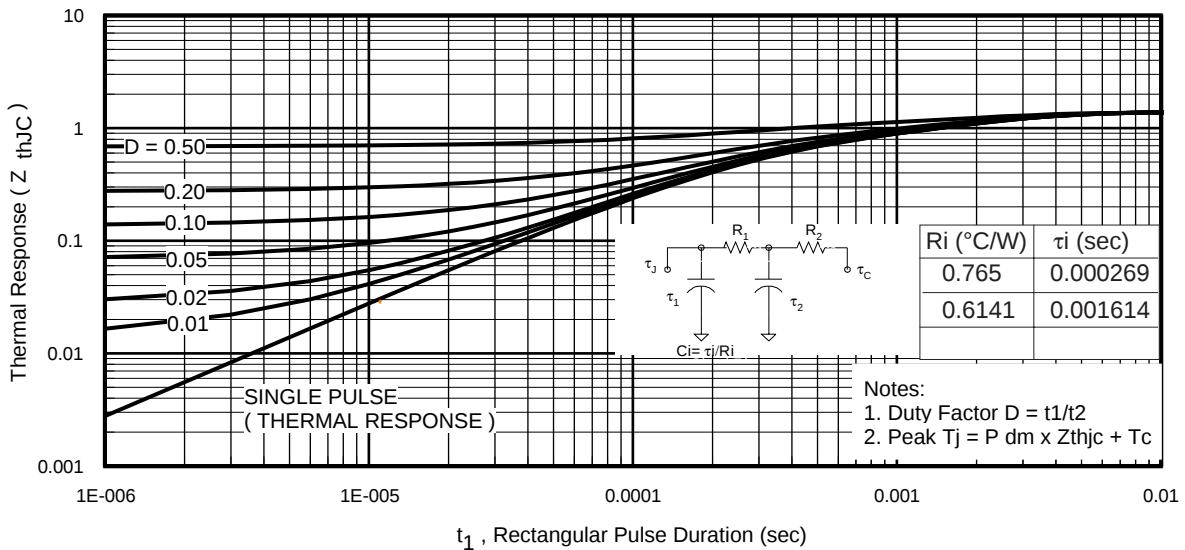
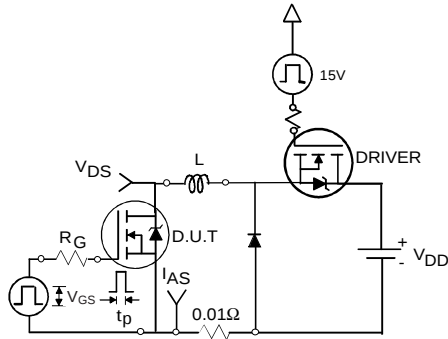

Fig 11. Maximum Effective Transient Thermal Impedance, Junction-to-Case
Fig 12a. Unclamped Inductive Test Circuit
3. Equation below based on circuit and waveforms shown in Figures 12a, 12b.
$Z_{thJC}(D, t_{av})$ = Transient thermal resistance, see figure 11)
- ① Repetitive rating; pulse width limited by max. junction temperature. (See fig. 11).
- ② Limited by T_{Jmax} , starting $T_J = 25^\circ\text{C}$, $L = 0.089\text{mH}$, $R_G = 25\Omega$, $I_{AS} = 36\text{A}$, $V_{GS} = 10\text{V}$. Part not recommended for use above this value.
- ③ Pulse width $\leq 1.0\text{ms}$; duty cycle $\leq 2\%$.
- ④ C_{OSS} eff. is a fixed capacitance that gives the same charging time as C_{OSS} while V_{DS} is rising from 0 to 80% V_{DSS} .
- ⑤ Limited by T_{Jmax} , see Fig.12a, 12b, 15, 16 for typical repetitive avalanche performance.
- ⑥ This value determined from sample failure population. 100% tested to this value in production.
- ⑦ When mounted on 1" square PCB (FR-4 or G-10 Material). For recommended footprint and soldering techniques refer to application note #AN-994
- ⑧ R_θ is measured at T_J approximately 90°C